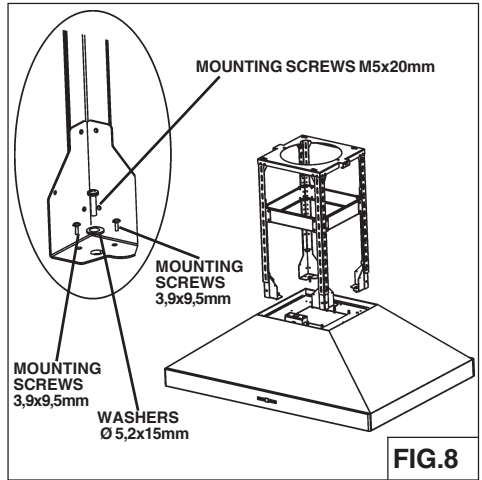

FIG.8
- Adjust the overall height of the support frame. Loosen and re-tighten the 4 screws in the **height adjustment slots** as necessary. Insert 8 screws (3.9x9.5mm), 4 screws (M5x20mm) and 4 washers (D.5.2x15mm) located in the Hardware Package (Fig. 8).